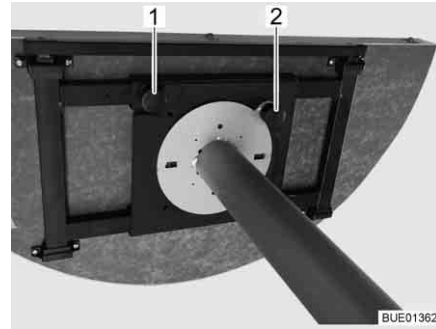

Fig. 98 Fixed table (from below)
- Loosen knurled screw (Fig. 98,1).
- Raise the adjustment knob (Fig. 98,2).